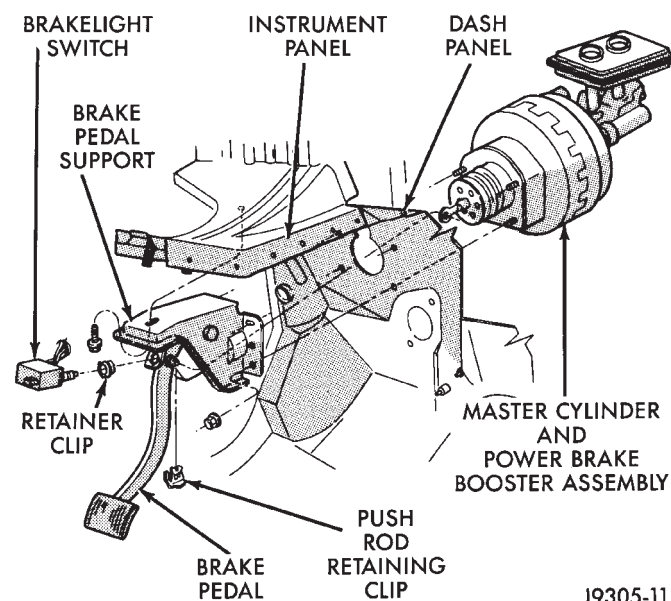

Fig. 1 Brake Pedal And Brakelight Switch Mounting
A suspended-type brake pedal is used on all models (Fig. 1). The pedal pivots on a pin mounted in the pedal support bracket. The bracket is attached to the dash and instrument panels on all models.
BRAKE PEDAL REMOVAL (Fig. 1)
BRAKE PEDAL INSTALLATION (Fig. 1)
The brakelight switch is mounted in the pedal support bracket and is operated by the pedal. The switch is secured in the bracket with a retainer (Fig. 1).
- (1) Insert replacement switch in retainer (Fig. 1). Thread switch into place or rock it up/down until switch plunger touches brake pedal.
- (2) Connect brakelight switch wires.
- (3) Check brakelight switch operation. Adjust switch position if necessary. Refer to procedures in this section.
- (4) Install trim panels (if removed).